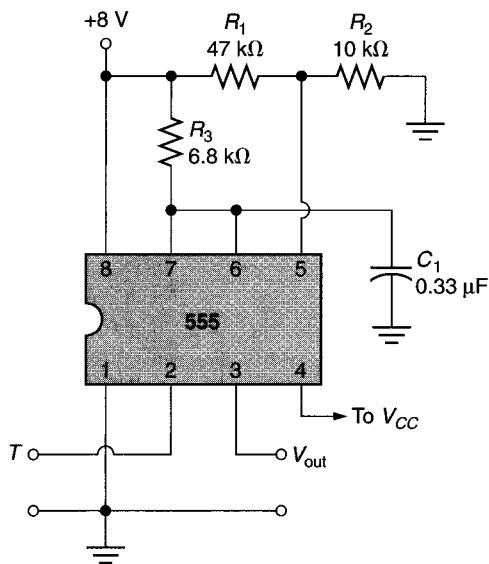

FIGURE 19.65
31. Calculate the value of  $V_{T(max)}$  for the switch in Figure 19.65.
32. The resistor values in Figure 19.65 are changed to  $R_1 = 33 \text{ k}\Omega$  and  $R_2 = 11 \text{ k}\Omega$ . Recalculate the value of  $V_{T(max)}$  for the circuit.